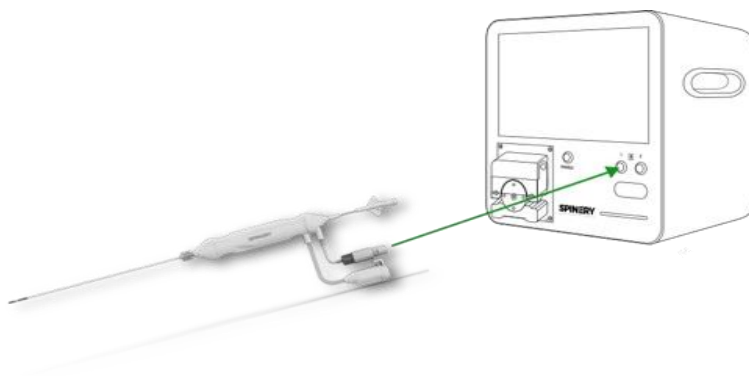

Figure 5 – Connecting the Probe to the RF Generator
1. Connect the probe to the generator (Figure 5).